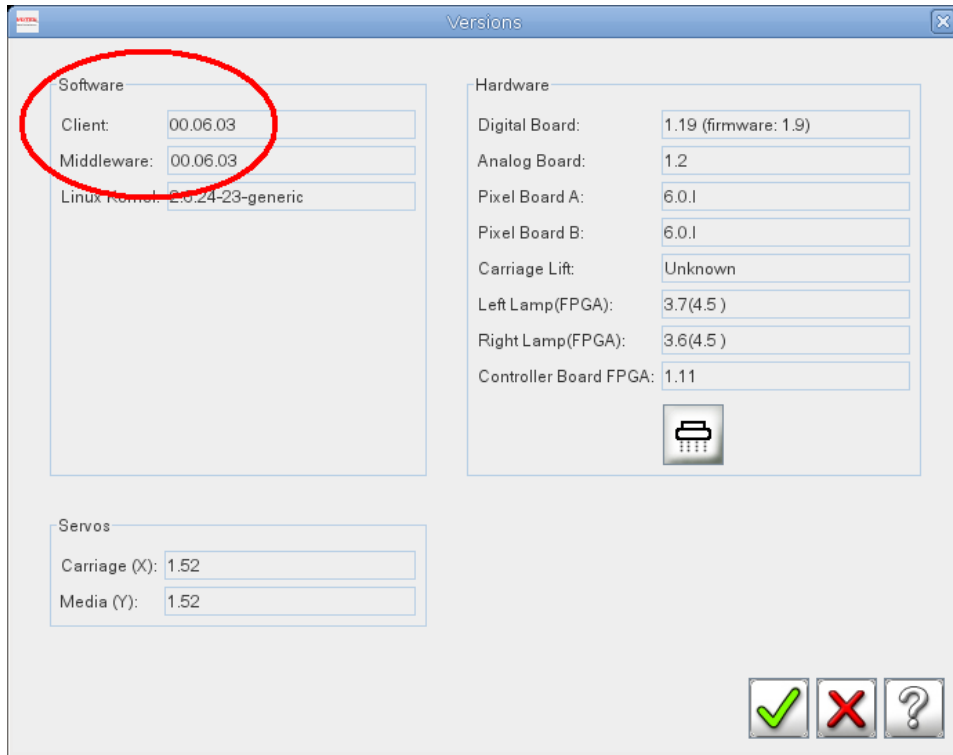

Figure 89: Version window
- To verify new version of software is running, select **Service** → **Versions** from VUI. Currently running software version is displayed in **Software** section on left-side of dialog box as shown in **Figure 89**.